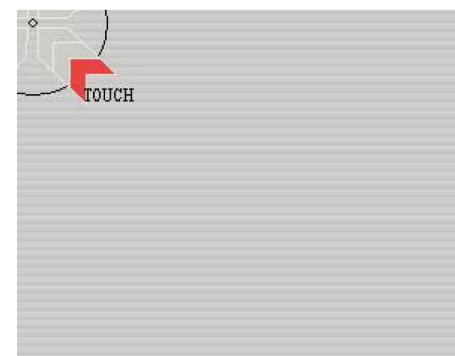

Figure 9
**It is important that all calibration routines be completed using a finger or a stylus.** If using a stylus during operation, calibrate with a stylus. Be sure to position in front of touch screen as it will normally be used, sitting or standing. This will reduce error when calibrating. (Figure 9)